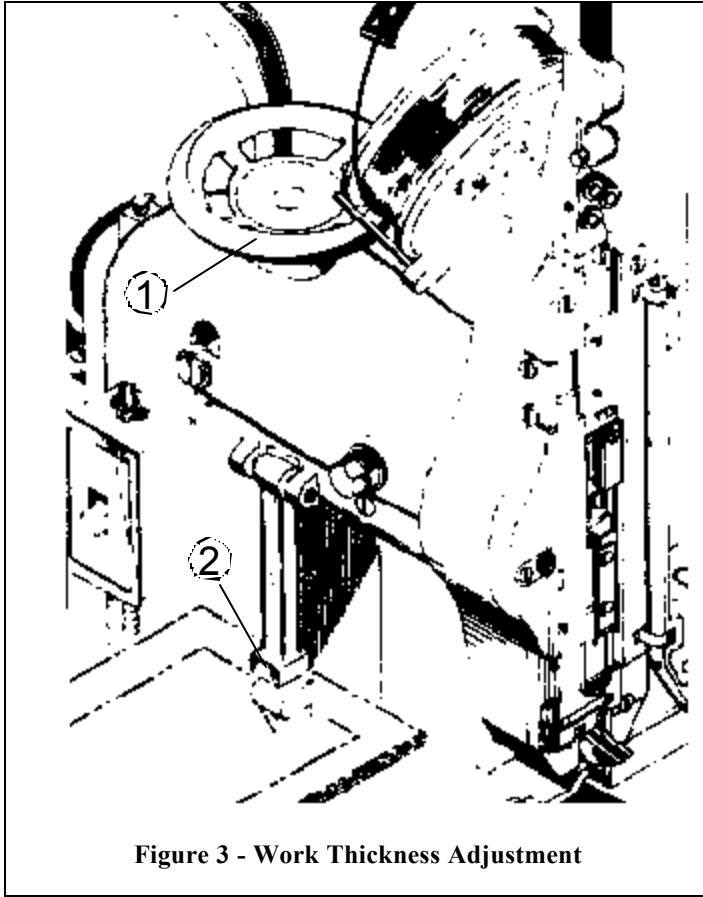

Figure 3 - Work Thickness Adjustment
Adjusting Thickness (Figure 3)
Turn the thickness adjustment handwheel (1) counter-clockwise (to the left) until the Column Gauge (2) has raised sufficiently to allow a sample of work to be stitched to be inserted between the Gauge and the Gauge Shelf, as shown in Fig. 3. With work held in this position, turn the handwheel (1) clockwise (to the right) until the work is firmly clamped between the Gauge (2) and the Gauge Shelf;